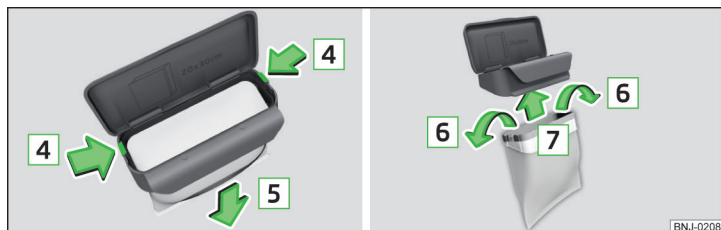

Fig. 79 Replace bags
- Press the two locking lugs on the frame in the direction of arrow **4** » Fig. 79.